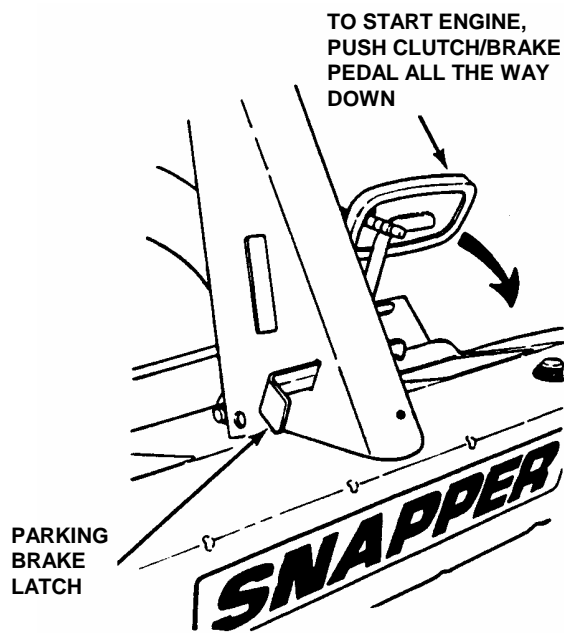

FIGURE 2.5
3. Press Clutch/Brake Pedal all the way down and hold while starting engine. See Figure 2.5.